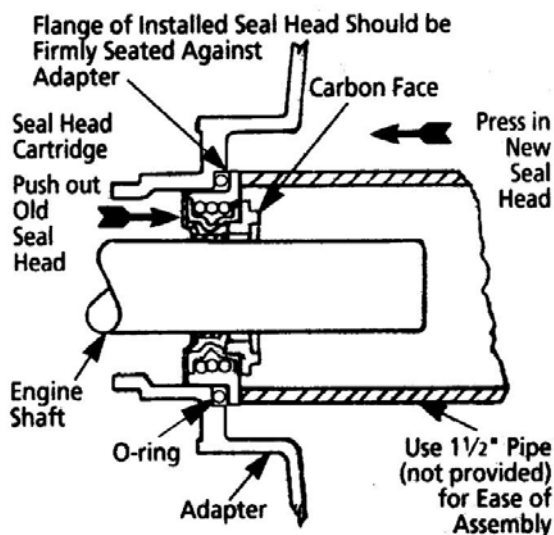

Figure 2 – Mechanical Seal Replacement
11. Place adapter seal (O-ring) onto seal head behind flange and press assembly into adapter as shown in Figure 2.